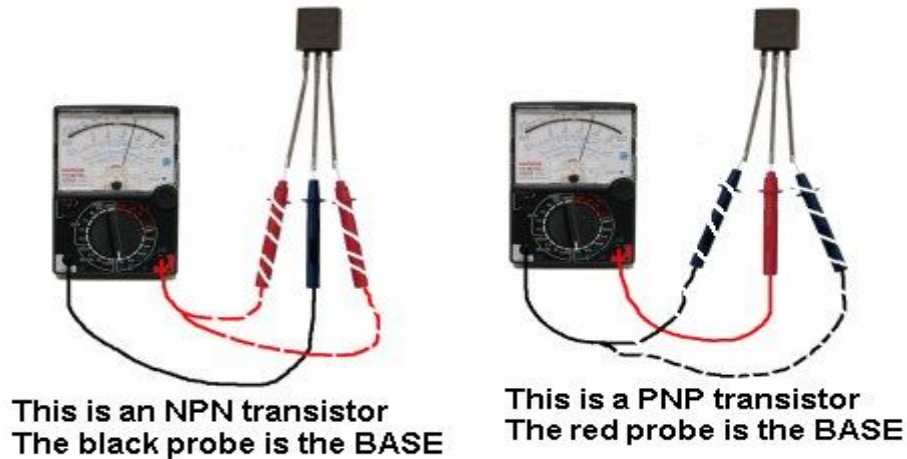

Figure 2.12: Identifying the Bases (B) of NPN and PNP Bipolar Transistors
2. Try touching the black test lead on one pin and the red lead to the remaining two pins of the unknown transistor in turn. At the point when the meter pointer swings to nearly full scale, you have an NPN transistor. The black probe is on the Base (B).
3. If the red touches a pin and the black test lead produces a swing on touching either of the remaining pins, you have a PNP transistor. The red probe is on the Base (B), as shown in Figure 2.12;